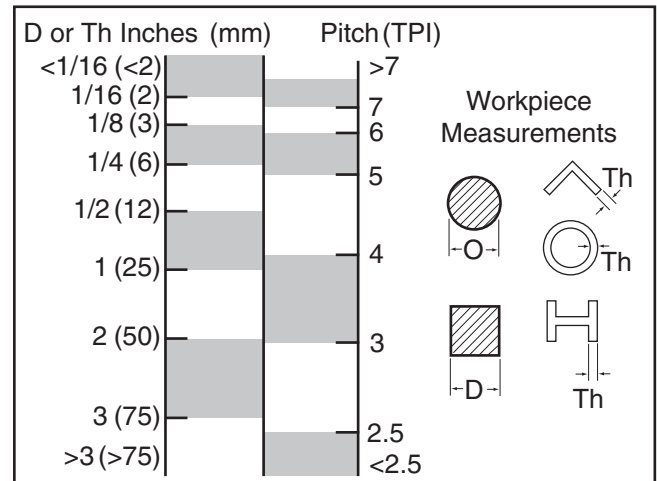

Figure 28. Blade selection chart.
- For solid workpieces, this measurement is length of cut taken from where tooth enters workpiece, sweeps through, and exits workpiece. See (D) on chart in **Figure 28**.
2. Refer to "D or Th" column of blade selection chart in **Figure 28**, and read down to find workpiece thickness you need to cut. Read across to find appropriate Pitch (TPI) for cut. See **Accessories** on **Page 29**.